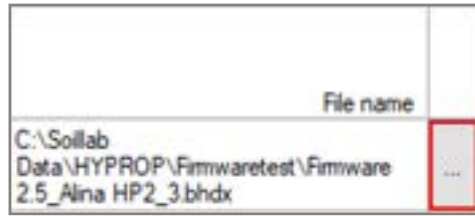

Figure 83 Open measurements to continue
1. Select the ... button next to the File name field in the measurement line (Figure 83).